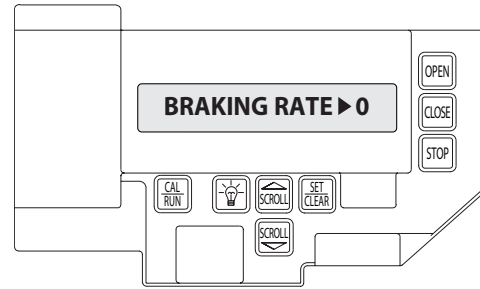

Figure 6
- 2) Press Scroll until display reads "BRAKING RATE >#," where # is the deceleration rate, ranging from 0 to 9. 0 = MAX braking, 9 = MIN braking. **Figure 6.**